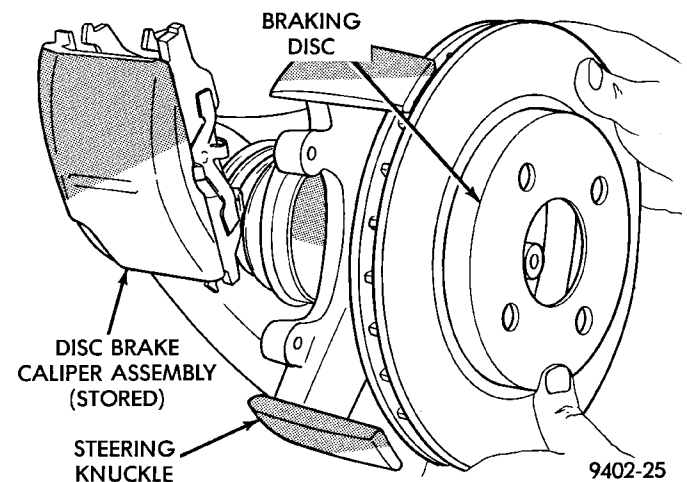
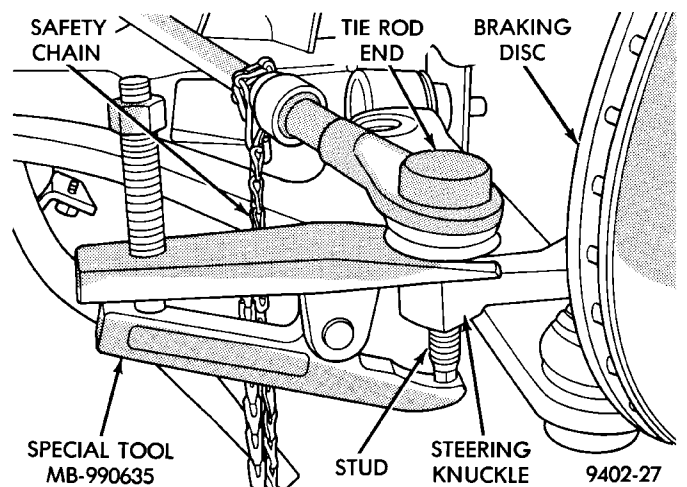

Fig. 8 Removing Front Braking Disc
Fig. 9 Tie Rod End Removal from Steering Knuckle
(8) Remove braking disc from front hub (Fig. 8).
(9) Remove nut attaching outer tie rod end to steering knuckle. **Nut is to be removed from tie rod end using the following procedure: Hold tie rod end stud with a 11/32 socket while loosening and removing nut.**
(10) Remove the tie rod end stud from steering knuckle arm using Special Tool MB-990635 (Fig. 9).